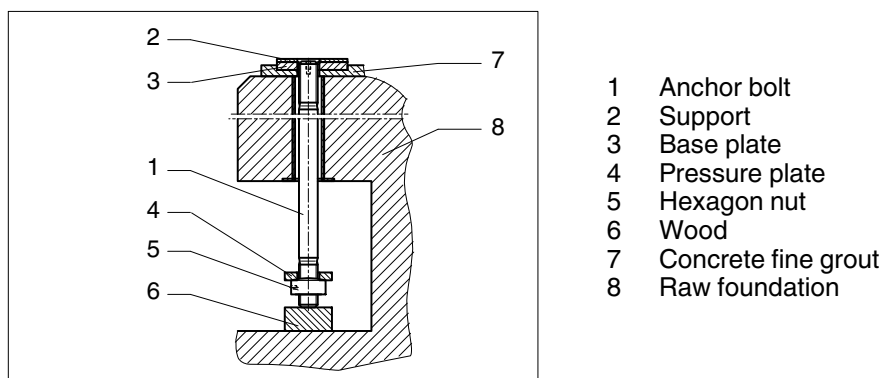

Fig. 38: Anchor bolt
- Pack the anchor bolt with wood so that it is about 10 mm from the upper edge of the support (see figure 38).